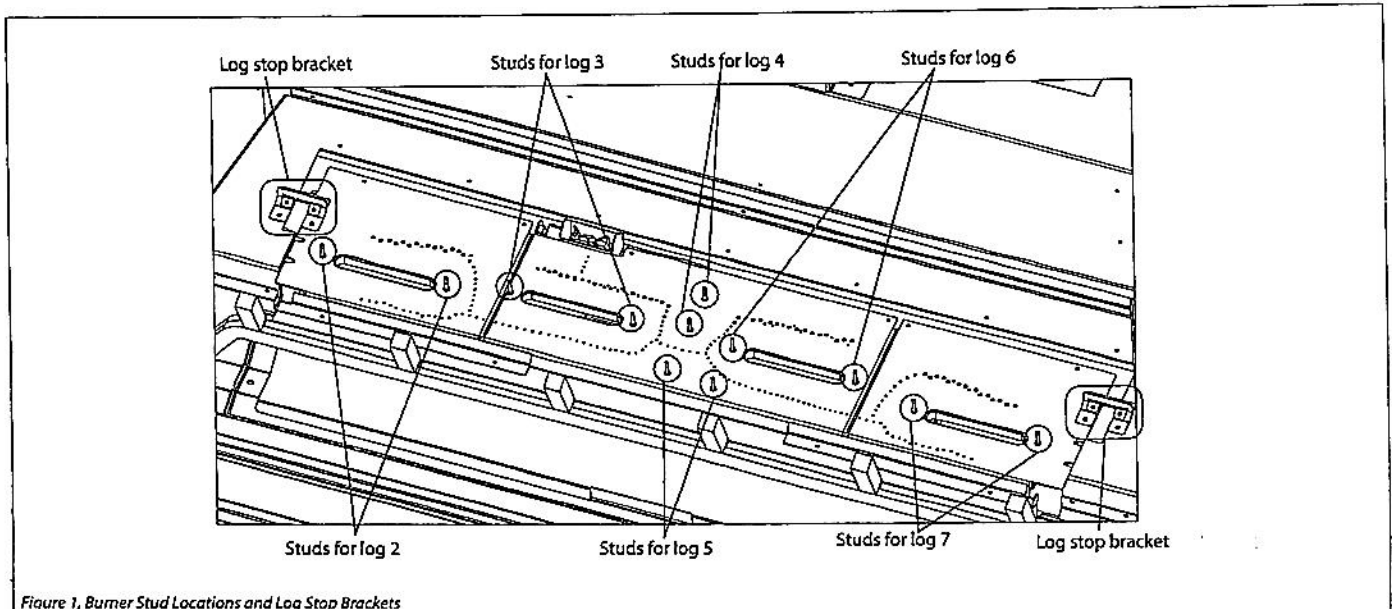
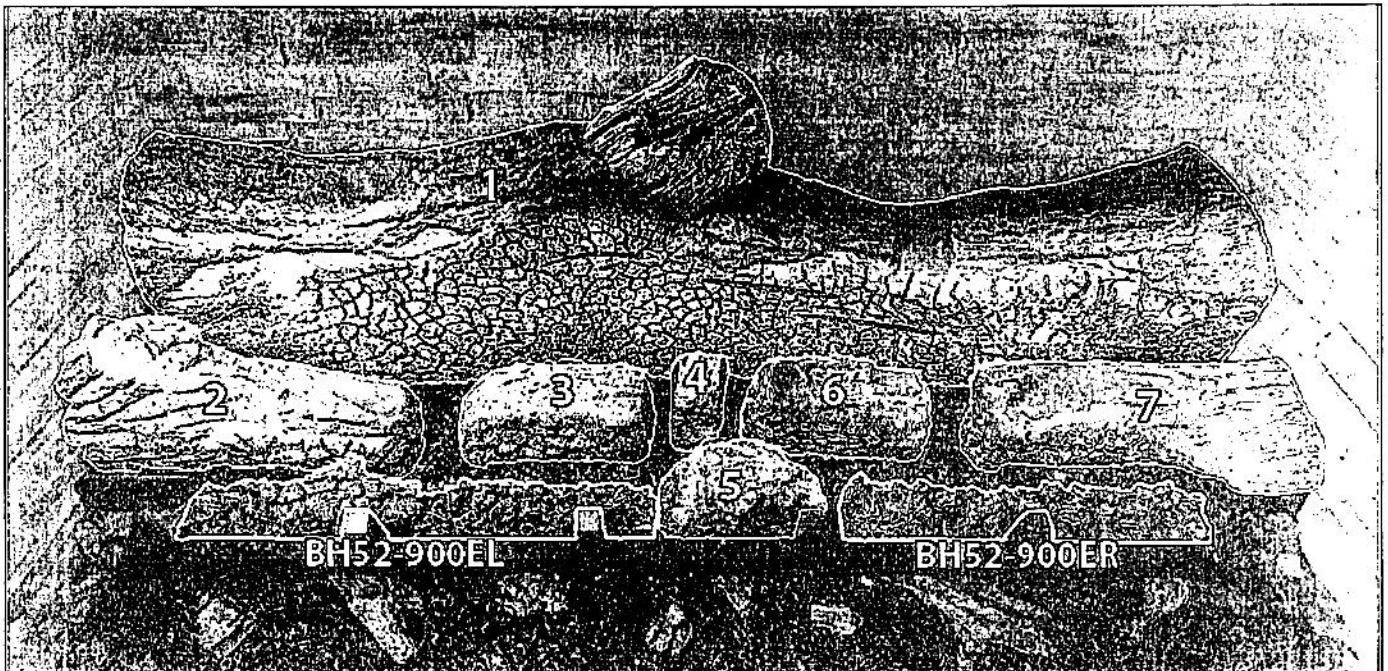

Figure 1, Burner Stud Locations and Log Stop Brackets
Figure 2, Base Logs
1. Using both hands, place log 1 at the rear of the firebox, as shown in Fig. 2. Slide the log forward until it rests against the log stop bracket flanges (Fig. 1).
2. Align the holes in the bottom of logs 2 through 7 with the corresponding studs located on the burners. See Fig. 1 for burner stud locations
3. Set logs 2 through 7 into position as shown in Fig. 2.
4. Place the left and right ember panels on their respective sides of log 5, as shown in Fig. 2. The right ember panel has a flat notch on the side closest to log 5.